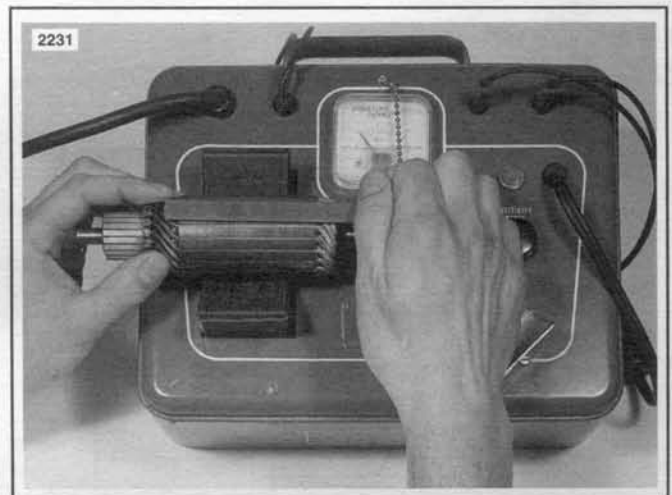

Figure 5-17. Shorted Armature Test Using Growler
10. See Figure 5-17. Check for SHORTED ARMATURE with a growler. Place armature on growler. Hold a thin steel strip (hacksaw blade) against armature core and slowly turn armature. A shorted armature will cause the steel strip to vibrate and be attracted to the core. Shorted armatures should be replaced.